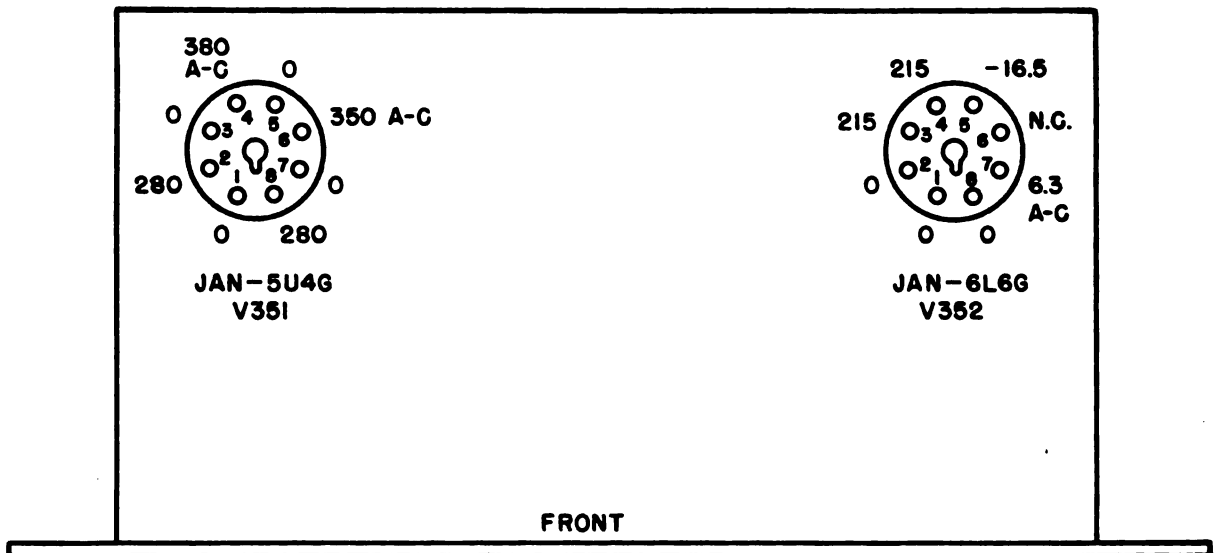

Figure 103. Control-rectifier Power Unit PP-135/CRD-3 voltage measurements.
(1) A-c input is 115 volts, 60 cycles.
(2) All tubes are in sockets.
(3) Remove all cords.
(4) Close switch S351.
(5) See figure 103 for voltages.